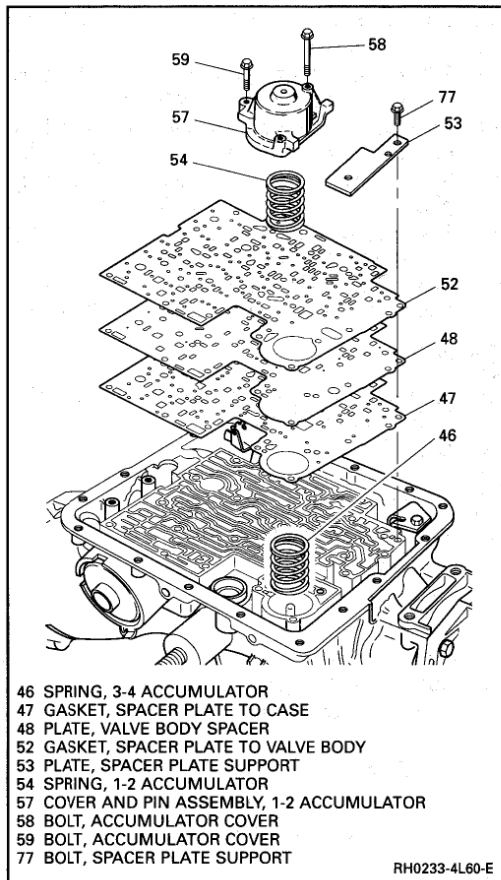

Figure 105 Accumulator Assembly, Spacer Plate and Gaskets
- O-ring seal (618) into the groove in the end of the turbine shaft.
- There should be clearance between the reverse input clutch and the reaction sun gear shell. This clearance can be observed at the point shown in Figure 105. **Do not** try to shim the internal parts because of this clearance (Figure 104).
Figures 105 and 107